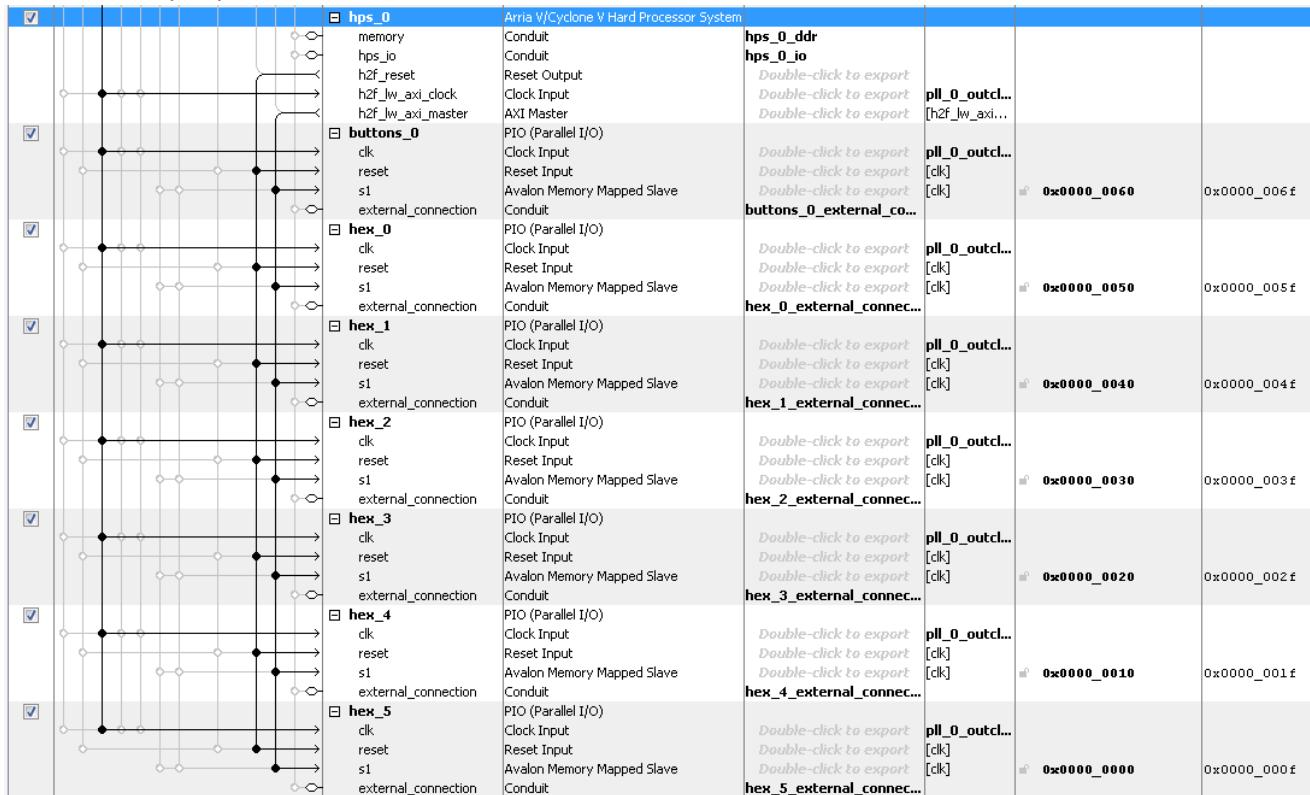

Figure 8-10. Adding Buttons and 7-segment Displays to the Lightweight HPS-to-FPGA Bridge
25. Connect the system as shown in Figure 8-10 below (we don't show the full system to make figures hold on one page). Notice that we use "hps\_0.h2f\_reset" as the reset signal for the components connected to the HPS. This is a design choice so we can separately reset FPGA-only peripherals, and FPGA peripherals connected to the HPS.